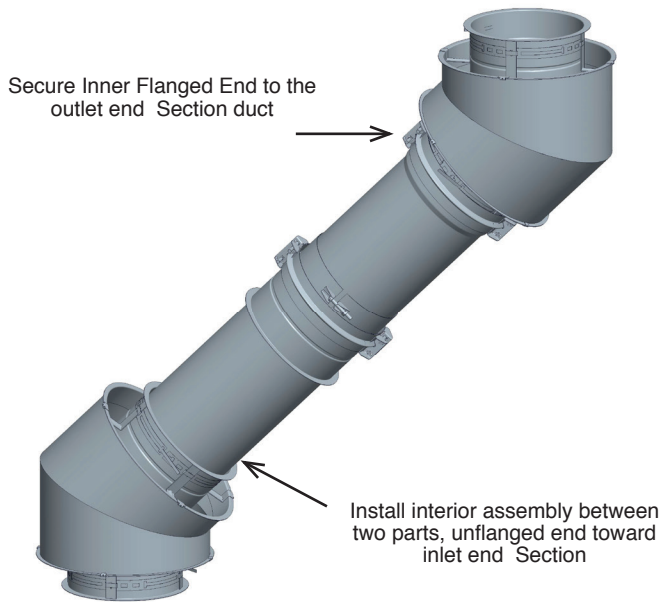

Figure 25 - Step 5-6 - Install the inner LV and secure the outlet end Flange
6. Assemble the outlet end sliding inner wall to the outlet end section as a regular section (See **JOINT ASSEMBLY** section). See **Figure 25**.